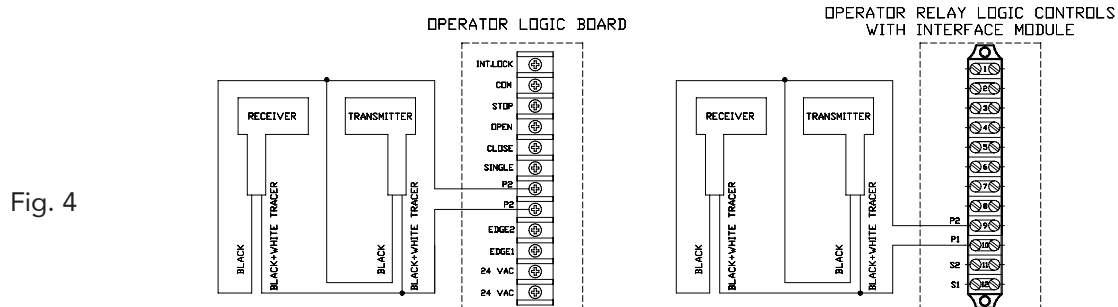

Fig. 4
6. Pair the two black and the two black with white tracer wires together from transmitter and receiver. Connect these paired wires to the P1 and P2 terminals on the logic board (or interface module if applicable) as shown in Fig 4. Use minimum 18 gauge wires and secure the wires to wall or ceiling.